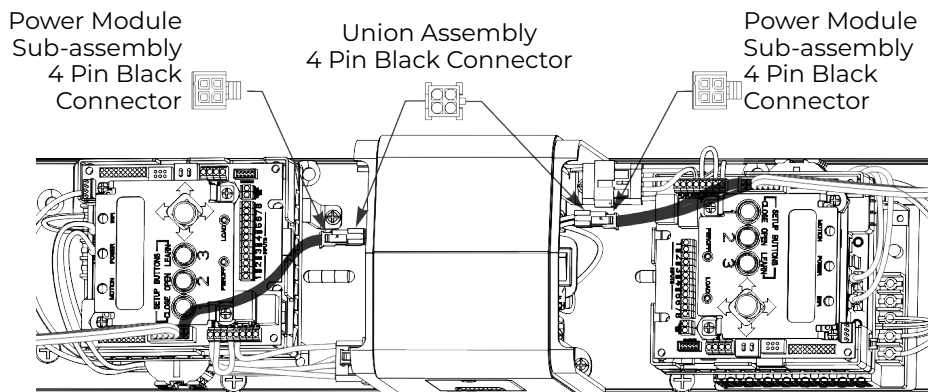

Figure 19
3. Connect 4-pin black square connector from power module sub-assembly to 4-pin black connector from union assembly for each operator. (Figure 19)